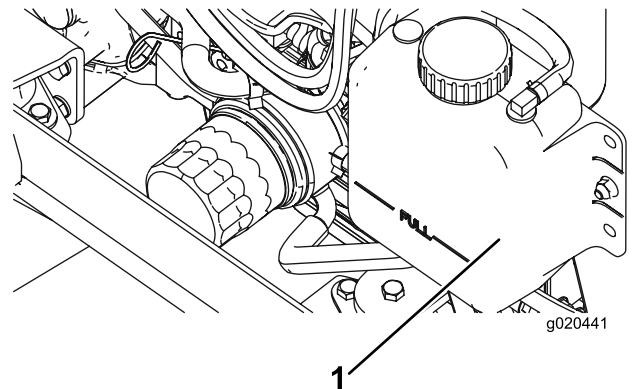

Figure 73
1. Carefully remove the radiator cap and expansion-tank cap (Figure 73).